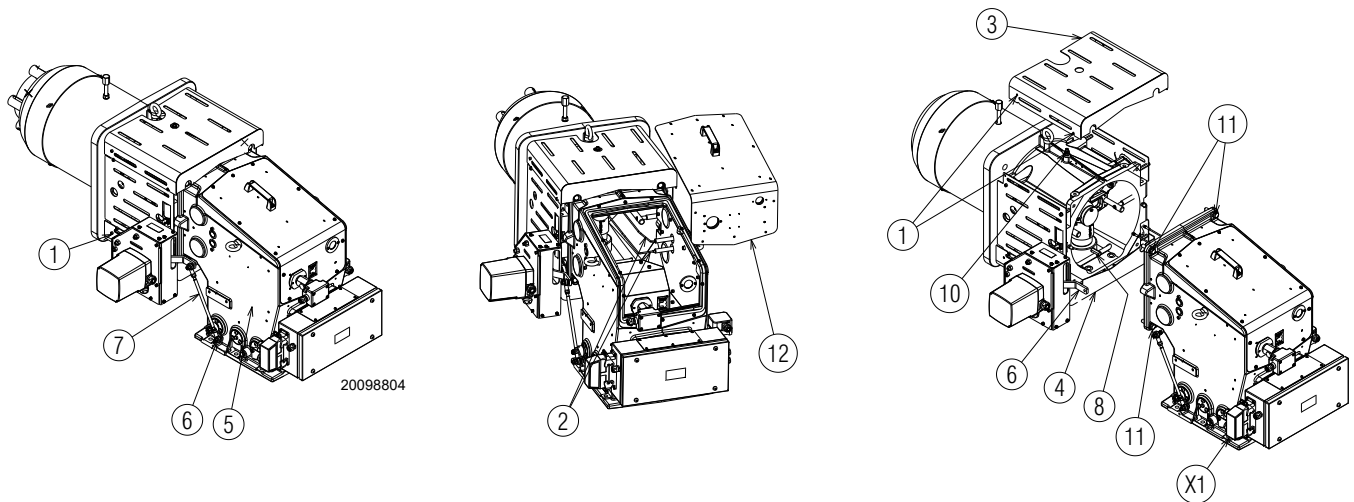

Fig. 16
- Unscrew the locknuts 6)(Fig. 16) and release the tie rods 7-8).
- Detach the suction duct 5) of the burner, as shown in Fig. 16.